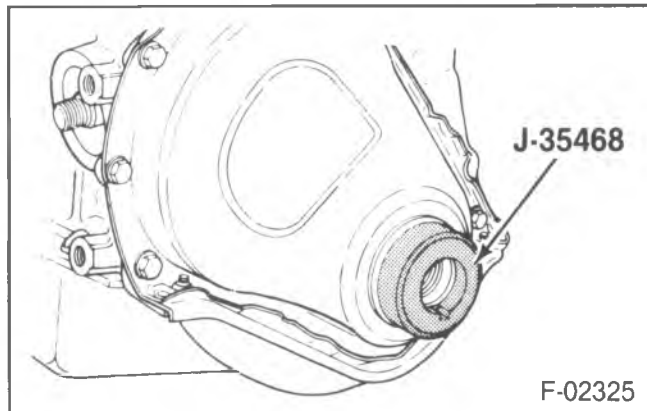

Figure 17—Installing The Timing Gear Cover And Seal
**Install or Connect (Figures 17 and 18)**
1. Front crankshaft seal. Use J-35468 (figure 17). Coat the seal lips with engine oil. The open end of the seal faces inside the engine.
Install or Connect (Figures 17, 19, and 20)
4. Timing gear cover, with J-35468 in place, to the block (figure 17).